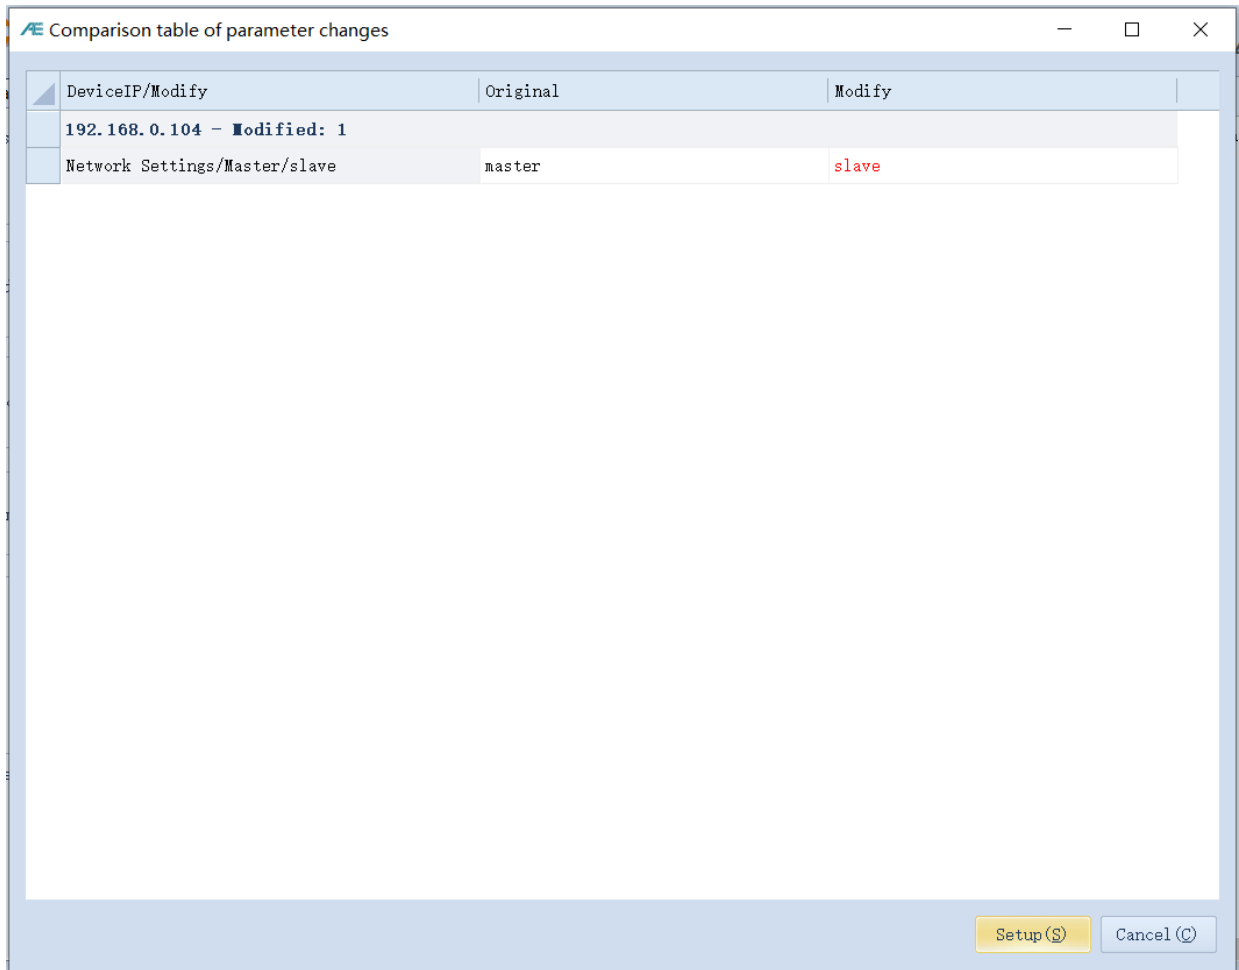

Fig. 4-9 RAEM1 Configuration Software “Modify” Confirmation window.
⑦ In the “**Network Settings**” page, the “**Modify**” button is only to modify the current selected RAEM1’s configurations, for example Ethernet IP address, and Master/Slave settings. After changing the values in those frames, click “**Modify**” buttons to pop out the window as Figure 4-9. Click the “**Setup**” button to send the device. No need to click “**Set Device**” button after.